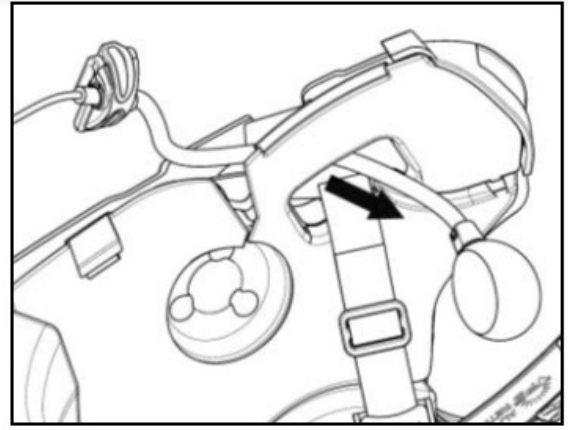
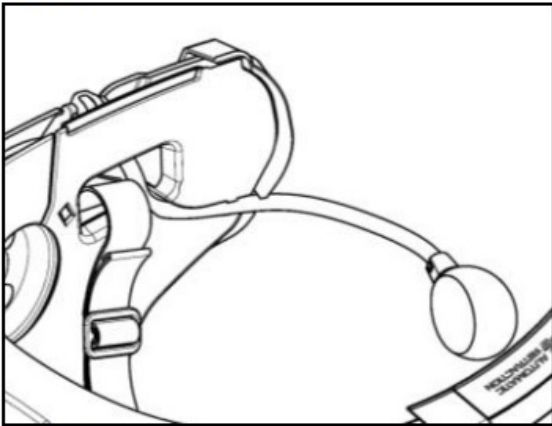

Fig. 12
Fig. 13
- Insert the microphone into the eyelet (Fig. 12) and position it in the special housing, then insert the boom pole of the microphone in the groove found in the chin guard coupling frame (Fig. 13).